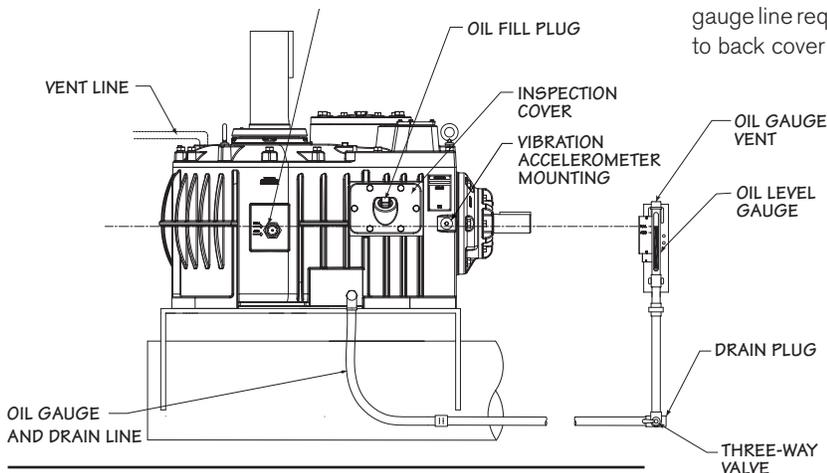

Figure 3 Service Fittings
Due to lack of control over facility operational readiness, site ambient conditions or storage practices, etc., it is recommended to supplement lubricant prior to initial operation. The same fill lubricant should be poured or pumped into the port above the interstage shaft. Remove pipe plug in center of Interstage Bearing Cap to expose port. Refer to **Figure 3**. If additional oil is being used, an amount of 1 to 1.5 quarts should be used. If the lubricant is being pumped from the sump bulk volume, at least 1 quart **should** be transferred. In either case, this priming step should be performed within 5 days of initial operation. If a delay occurs and the 5 day duration is exceeded, repeat the process. In either case, this priming step should be performed *while rotating the gear train by hand* and within 5 days of initial operation.
1. Install oil at the opening at the Geareducer inspection cover until it reaches the level of the Full mark on the Geareducer case and at the oil level gauge. See **Figures 3** and **4**. Install plug.
The cooling tower has an external oil gauge and drain line equipped with a three-way valve below the oil level gauge. See **Figure 3**.
Check the oil level placard location each time the oil is changed. The Full mark on the placard must be at the same elevation as the Full arrow on the side of the Geareducer case. See **Figures 3** and **4**.